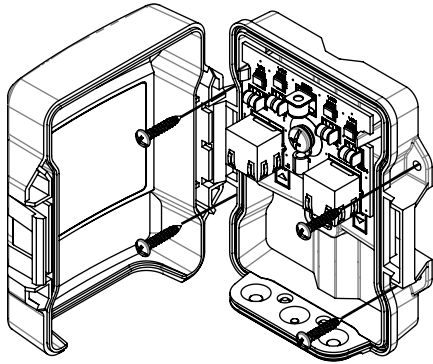

Figure 1 - Wall mount installation
2. Open lid of unit to access wall mount holes (see Figure 1).